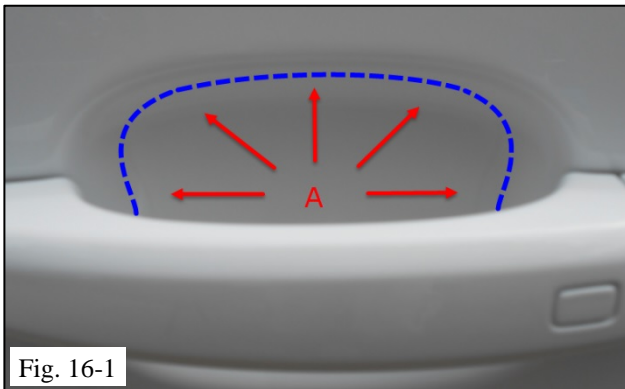

Fig. 16-1
- (a) Apply wetting agent to part and alcohol solution to the surface of the door. Place the film in the handle opening and center it using the top and bottom lip as a guide. Use your thumbs to gently wipe the center of the piece until it is tacked. Remove the remaining solution pushing it out gradually towards the edges working away from the center (Fig. 16-1).